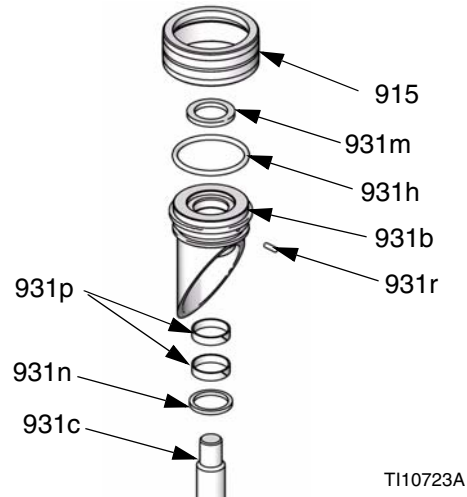

FIG. 37: S20 Piston Rod Bearing
3. Unscrew cylinder cap (915) and pull rod guide housing (931b) up off piston rod (931c). See FIG. 37.